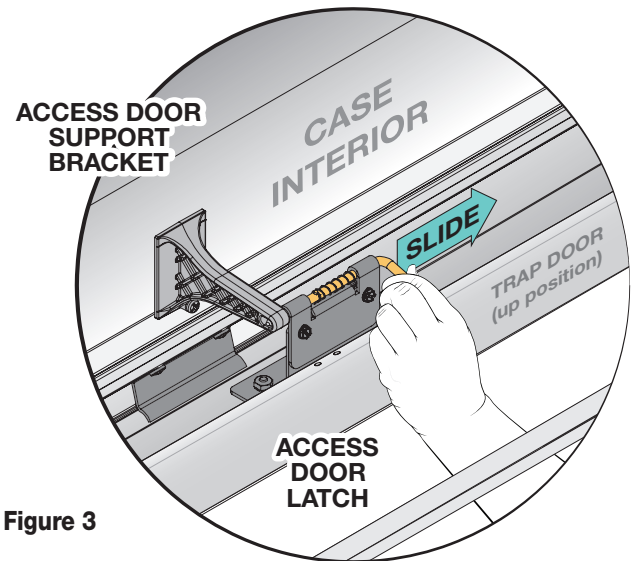

Figure 3
2. To disengage, slide latch lever towards center of screen case (*Fig.3*), then pull down gently on trap door assembly.